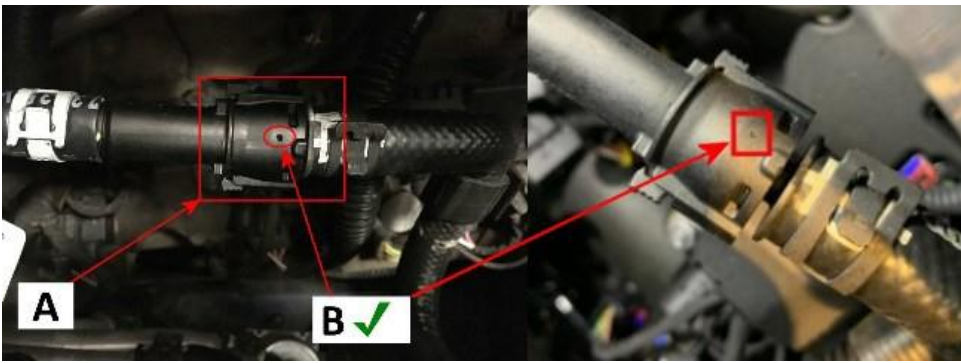

Figure 3
3) Referring to the example shown in Figures 3 (Correct orientation) - Locate the connection at (Point A)